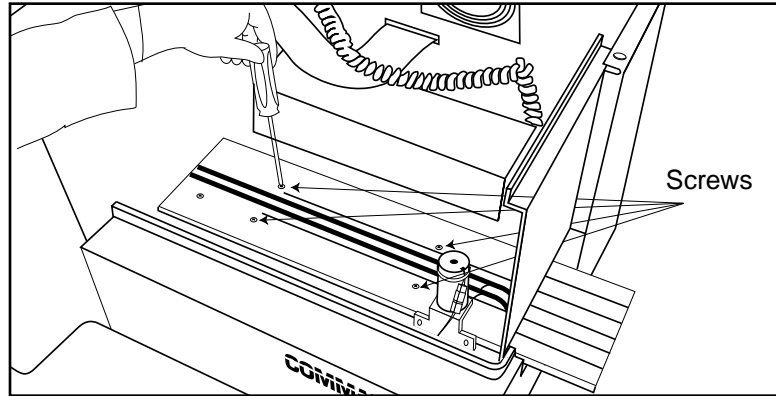

Figure 9.7
4. Remove the four mounting screws that attach the load urge belt slide assembly (Figure 9.7).